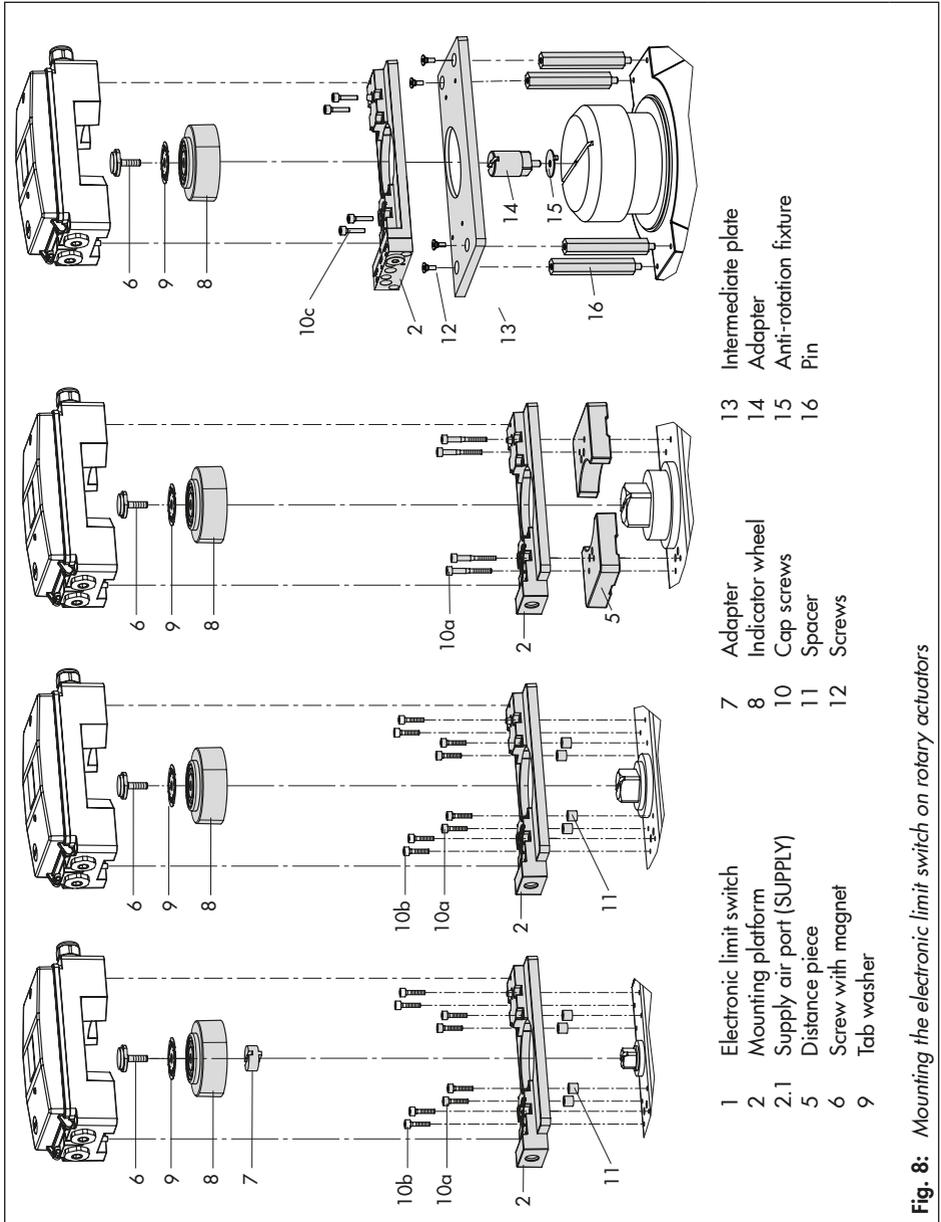

Fig. 8: Mounting the electronic limit switch on rotary actuators
The attachment depends on the shaft height of the rotary actuator upon which the electronic limit switch is to be mounted (Fig. 8).
5. Fasten the screw with magnet (6) onto the actuator shaft.
6. Bend the two flaps on the plate (9) towards the width flats of the screw with magnet (6).
7. Place the electronic limit switch on the mounting platform (2) as shown in Fig. 8 and fasten it using the two screws mounted on the device.